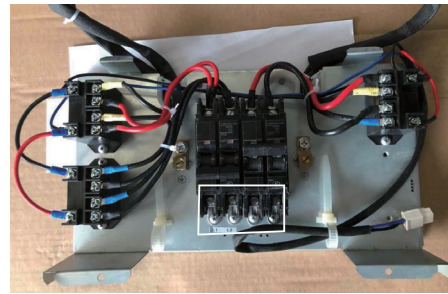

Fig. 30 — Choose the power cord installation location
- Power Wiring should be sized in accordance with NEC (CEC) requirements and local codes (see Table 6 on page 11). Choose the power cord and the power cord installation location (see Figure 30). Each circuit breaker group needs to connect to the power input line. Where needed, Jumper L1 and L2 to the terminals for the other contactor.